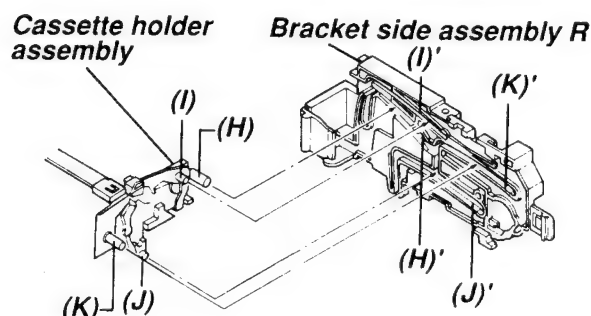

Fig. 4-1-19
- When mounting the bracket side assembly R on the cassette holder assembly, pass bosses (H), (I), (J) and (K) through the grooves on the bracket side assembly R, (H)', (I)', (J)' and (K)' respectively. (Refer to Fig. 4-1-19.)